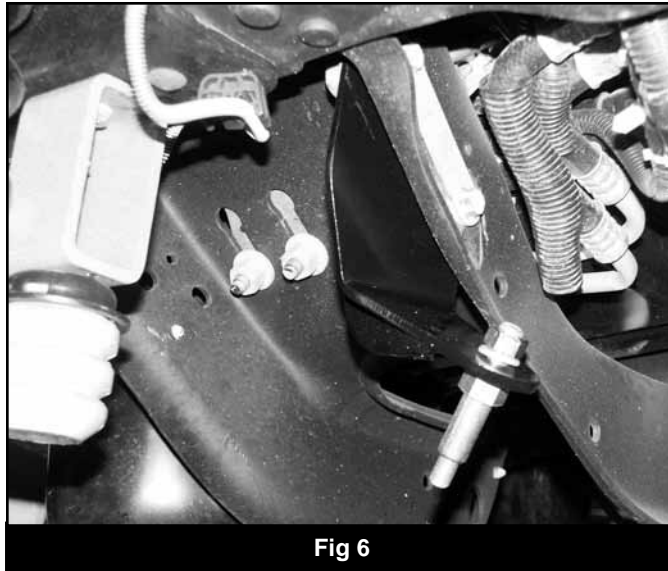

Fig 6
- Install the new steering stabilizer bracket to the frame using the original hardware (Fig 6). Mount the stabilizer bracket to the back side of the frame crossmember in the original mounting holes. Torque hardware to 55 ft-lbs.
- Install the provided shock stud in the new stabilizer bracket up through the bracket so that the stud points down (Fig 6). Torque to 50 ft-lbs.